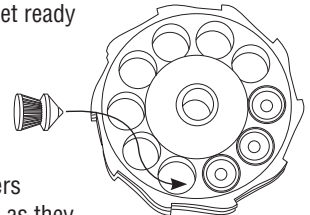

Fig. 8
3. Load pellets through the rear of the magazine (Fig. 8). Push the pellet noses through the retaining O-ring until their skirts lie flush or below the bottom of the magazine face.